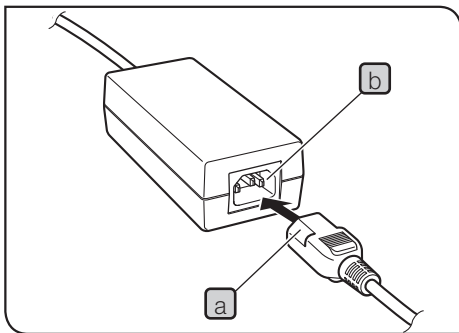

Fig.47
## 9 Attaching the power cord (Figs.47 to 49)
Operation using the AC adapter (Fig.47)
- 1 Insert the connector **a** of the power cord firmly into the input connector **b** of the AC adapter. (Fig.47)